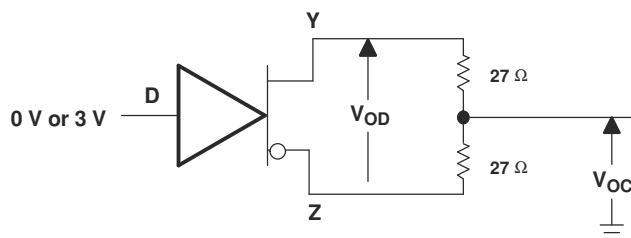

Figure 6-1. Driver  $V_{OD}$  and  $V_{OC}$
| $ V_{OD} $          | Differential output voltage                                       | $R_L = 54 \Omega$ , See <a href="#">Figure 6-1</a>                         | SN65LBC179A          | 1    | 1.5                | 3   | V       |
| $\Delta  V_{OD} $   | Change in magnitude of differential output voltage (2) | See <a href="#">Figure 6-1</a> and <a href="#">Figure 6-2</a>              |                      | -0.2 |                    | 0.2 | V       |
| $V_{OC(SS)}$        | Steady-state common-mode output voltage                           | See <a href="#">Figure 6-1</a>   |                      | 1.8  | 2.4                | 2.8 | V       |
| $V_{OH}$  | High-level output voltage                  | $V_{ID} = 200 \text{ mV}$ , $I_{OH} = -8 \text{ mA}$ , See <a href="#">Figure 6-1</a> | 4                  | 4.9  |      | V    |    |
| $V_{OL}$  | Low-level output voltage                   | $V_{ID} = -200 \text{ mV}$ , $I_{OL} = 8 \text{ mA}$ , See <a href="#">Figure 6-1</a> |                    | 0.1  | 0.8  | V    |    |